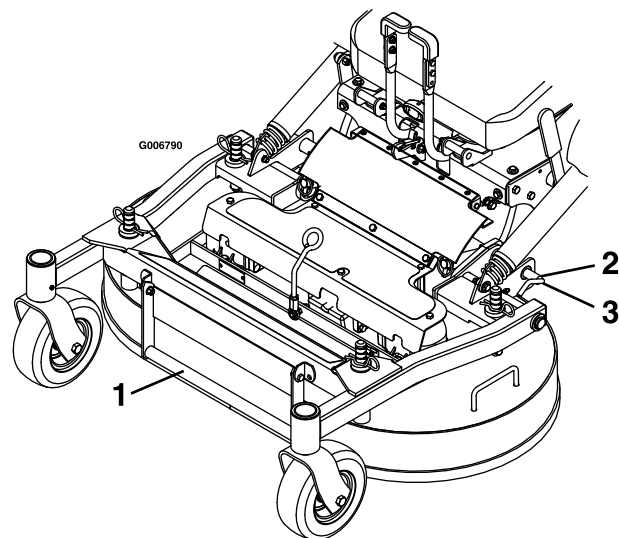

Figure 10
6. Release the mower deck locking pins on each side (Figure 10).
4. Push the deck locking pins inward and rotate them forward to securely lock the mower deck in the lowered position (Figure 10).